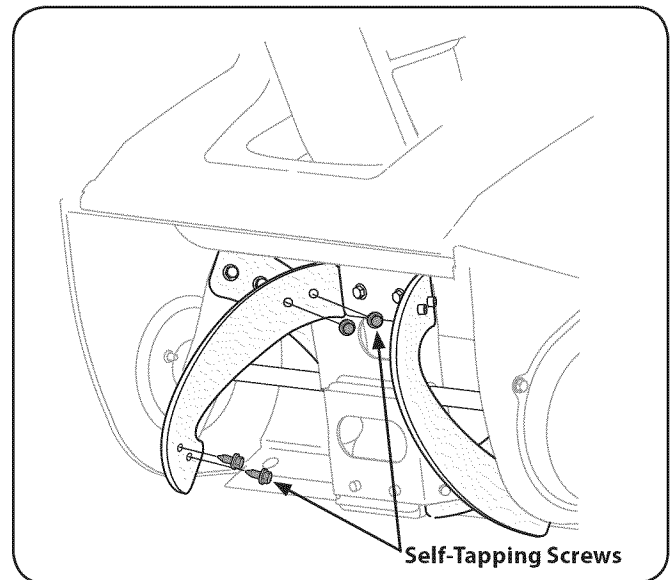

Figure 7-3
1. Remove the existing rubber paddles by unthreading the self-tapping screws which secure them to the auger. See Fig. 7-3.